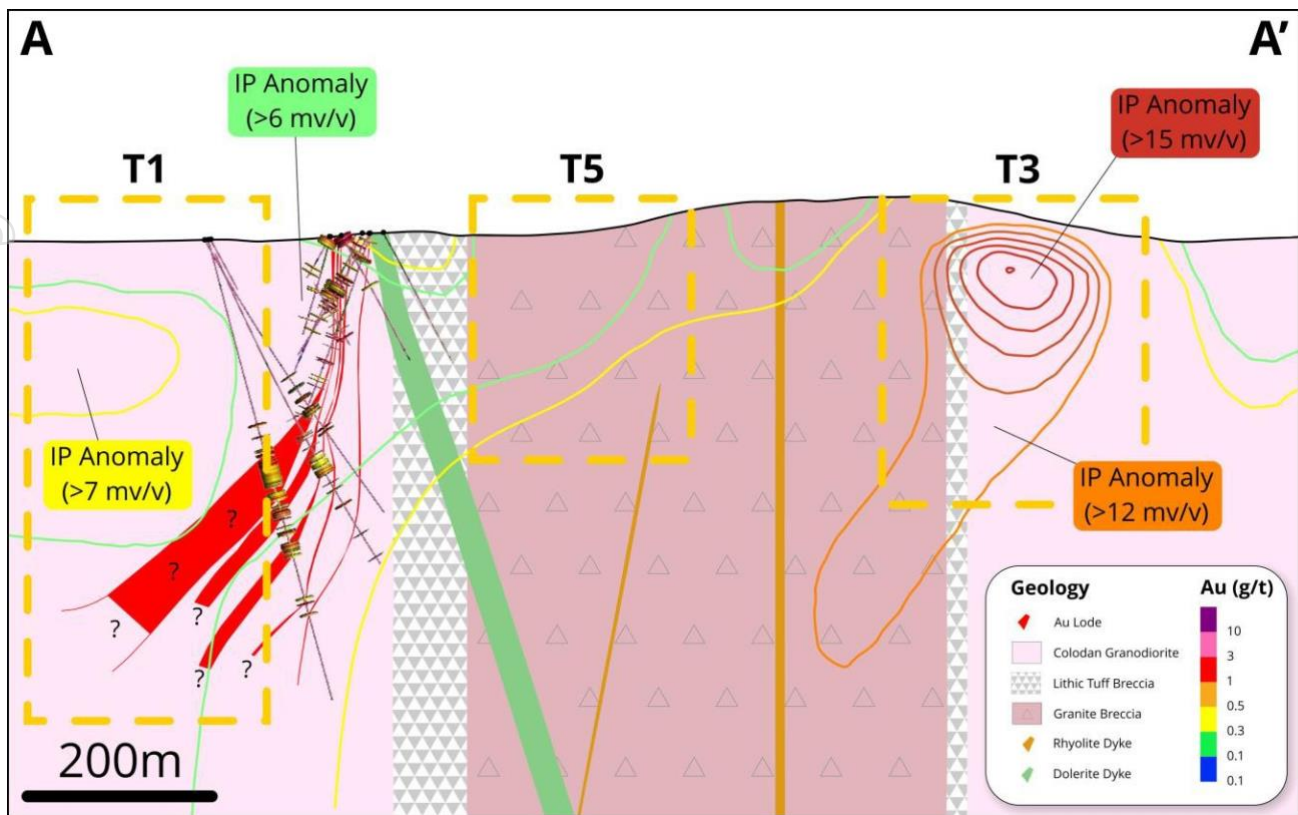

Figure 4: Cross Section (A-A' from Figure 2) showing drill targets, generated by drilling and geophysics
**Figure 2: A) Aeromagnetic image with units mapped at outcrop, max gold (Au) in hole drill results, logged dolerite and inferred fault and B) 3D model (oblique view to the North East); the section labelled from A-A' refers to the cross section in Figure 4 per below**